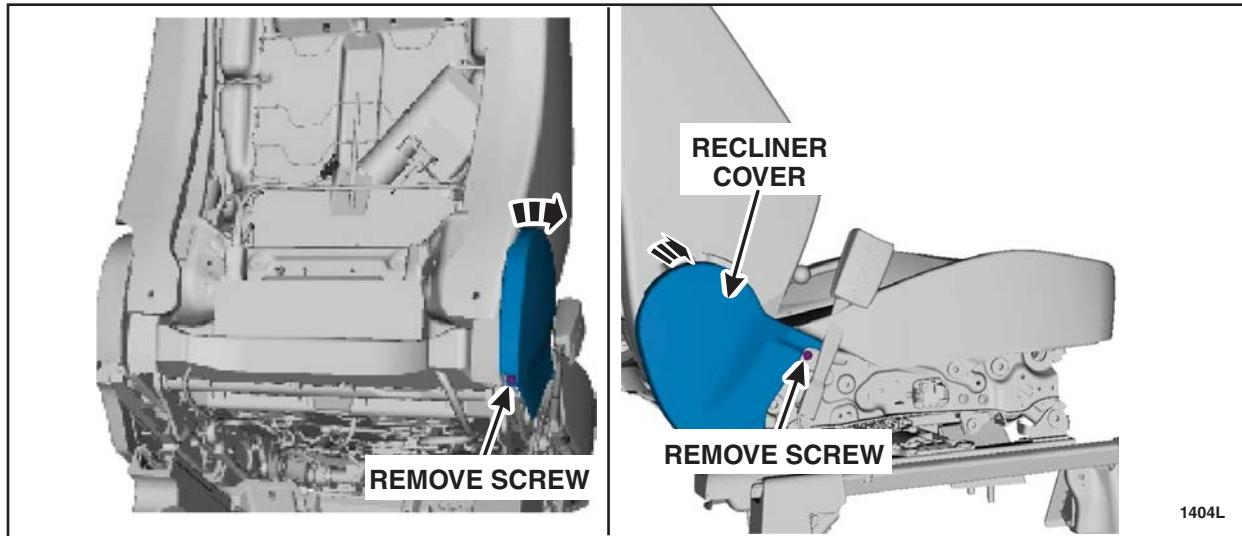

FIGURE 12
14. Remove the recliner cover. See Figure 12.